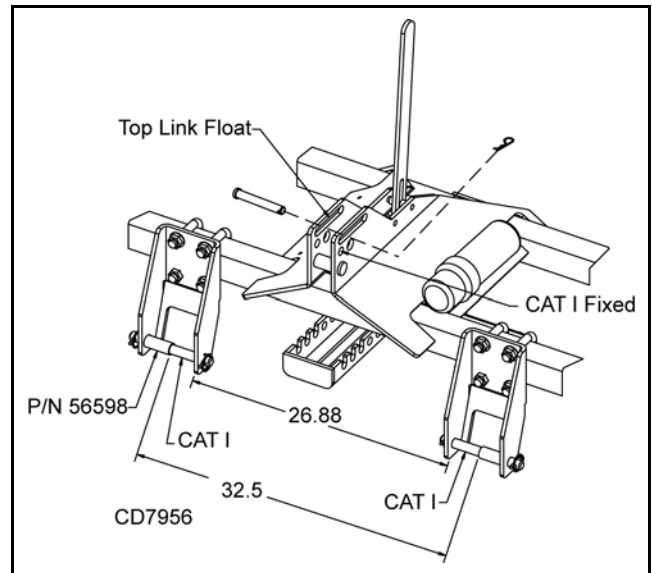

Figure 7. CAT I Hitch
1. Attach the tractor's lower lift arms to the seeder and secure with mounting pins and klik pins. See Figure 7, 8 and 9.
2. Attach the tractor's top link to the mast plates of the seeder. For controlled depth of tillage, use the fixed-pin location above the quick hitch bushing. See Figure 7, 8 and 9.
NOTE: The seeder can be operated in a float or fixed 3-point hitch position. For beginning usage, the float position is recommended. See Figure 7.